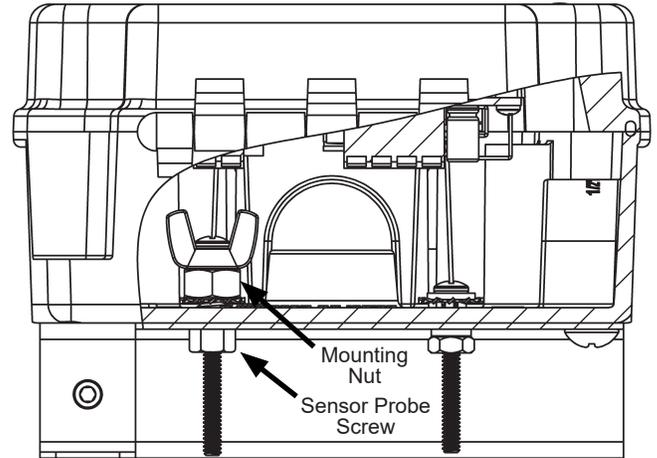

Fig. 5: Leak Detector with Attached Sensor
3. Adjust the depth screw with the wing nut to set the alarm depth for detecting leaks as shown in Fig. 5.